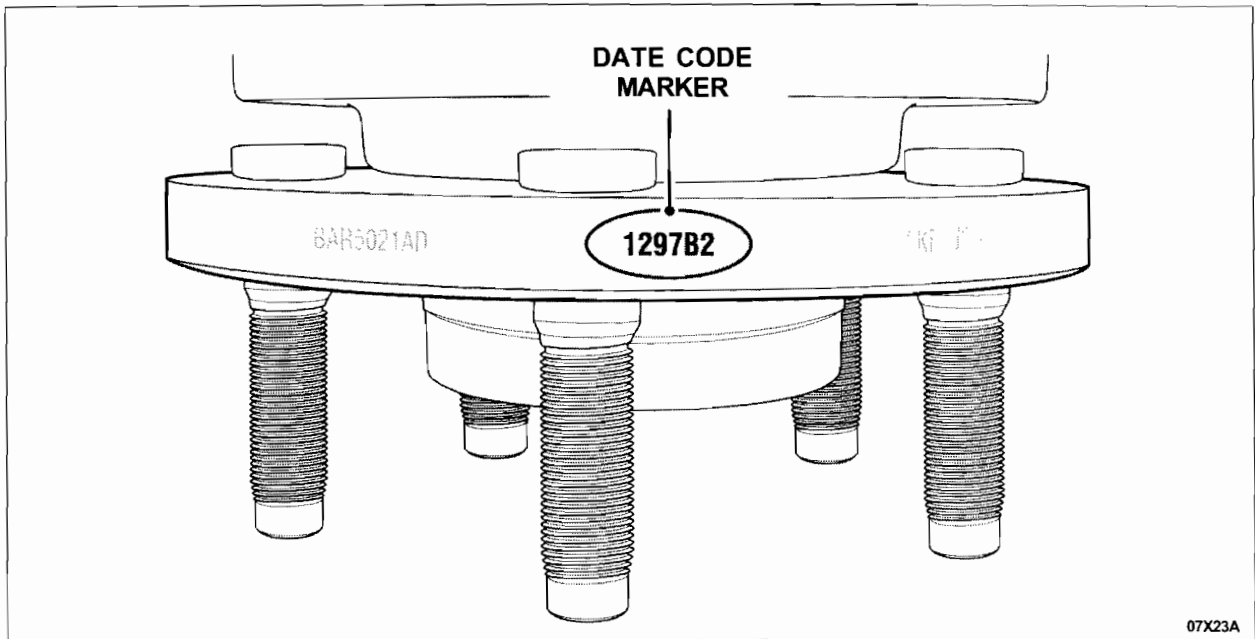

FIGURE 1
7. Inspect the wheel bearing hub assemblies for one of the following build date codes located on the wheel bearing and hub assembly flange edge: 1297A1, 1297A2, 1297B1, 1297B2, 1297C1, 1297C2. See Figure 1.